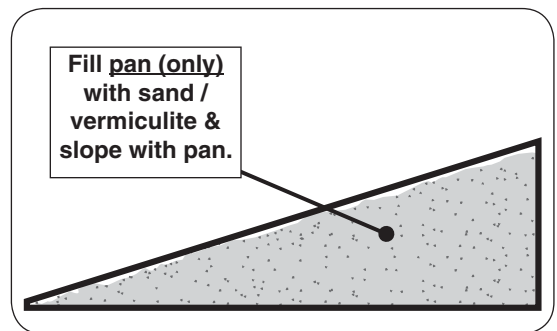

Fig. 20-4 Sand/vermiculite detail
2. Slope the sand/vermiculite at the same angle as the burner pan. This is important to ensure quiet lighting and even flame distribution. See Fig. 20-4.